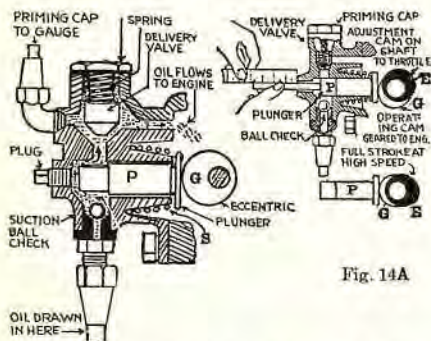

Fig. 14A
Throttle control of oil pressure: The plunger (P) is also under the control of another eccentric (E, Fig. 14A) which is connected with the foot accelerator and throttle control. Thus the quantity of oil pumped to the engine varies with the demand made upon the engine.
3. **To check adjustment:** Measure stroke as shown in Fig. 14A, by removing the plug and insert a match or nail in the hole, bringing it into contact with the plunger head. The pump can be felt going through its stroke. (Care must be taken in doing this, as the fan runs very close to the plug and offers opportunity for injury.)
Fig. 14 (left). On outer stroke of plunger (P) oil is drawn from oil pan through a 50 mesh screen up through the ball check. On inner stroke of (P) oil forces delivery valve open and flows to engine. Fig. 14A (right). Adjusting oil pump. (Hudson and Essex.)
Fig. 15. Control mechanism of oil supply. Note position of adjusting screw (A) at the left end of the cross-rod. The stroke of the oil pump is decreased by turning this screw (A) in a counter-clockwise direction. (B) is a crank connected with a shaft which passes through an outer tube (T), and the inner end of this shaft is connected with the adjusting cam (E, Fig. 14A) which governs the amount of stroke of plunger (P, Fig. 14A). The arm (B) connects with the foot accelerator and throttle control; thus as the throttle is opened for higher speeds the adjusting cam (E) is moved to a position which gives a greater stroke of plunger (P); consequently the quantity of oil pumped to the engine varies with the opening of the throttle.
1. Loosen the throttle arm (B) on the pump-control eccentric (E) at the left side of the engine.
2. Turn the control eccentric arm (A, Fig. 15) with a screwdriver until, with the engine idling, the stroke is minimum $\frac{1}{8}$ ", maximum $5/32$ ", measured as shown in Fig. 14A.